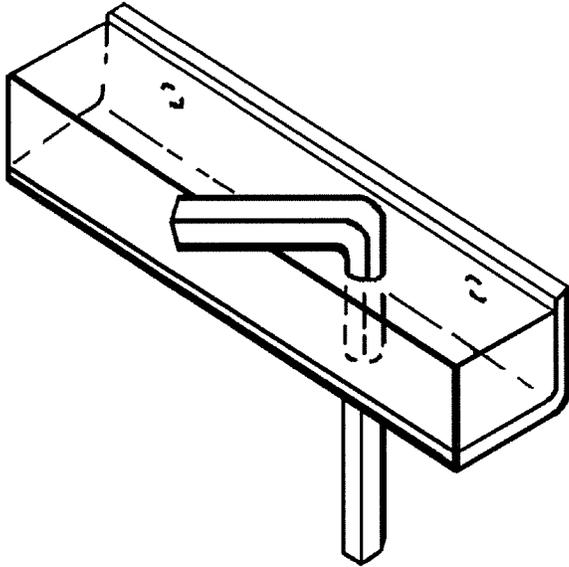

Figure 5-3. Grip Bracket
- c. The grip bracket (Figure 5-3) is a strip of rubber attached with screws to provide a gripping surface to hold allen wrenches, drill bits, etc. It may be mounted in the horizontal or vertical position.